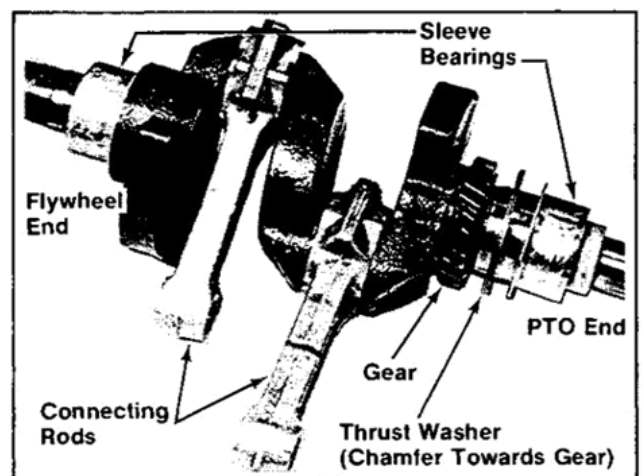

Figure 11-10. Installing Thrust Washer And Bearings To Crankshaft.
1. Lubricate the crankshaft bearing journals with engine oil. Install the .130" thrust washer to PTO end of crankshaft. Refer to Figure 11-10.